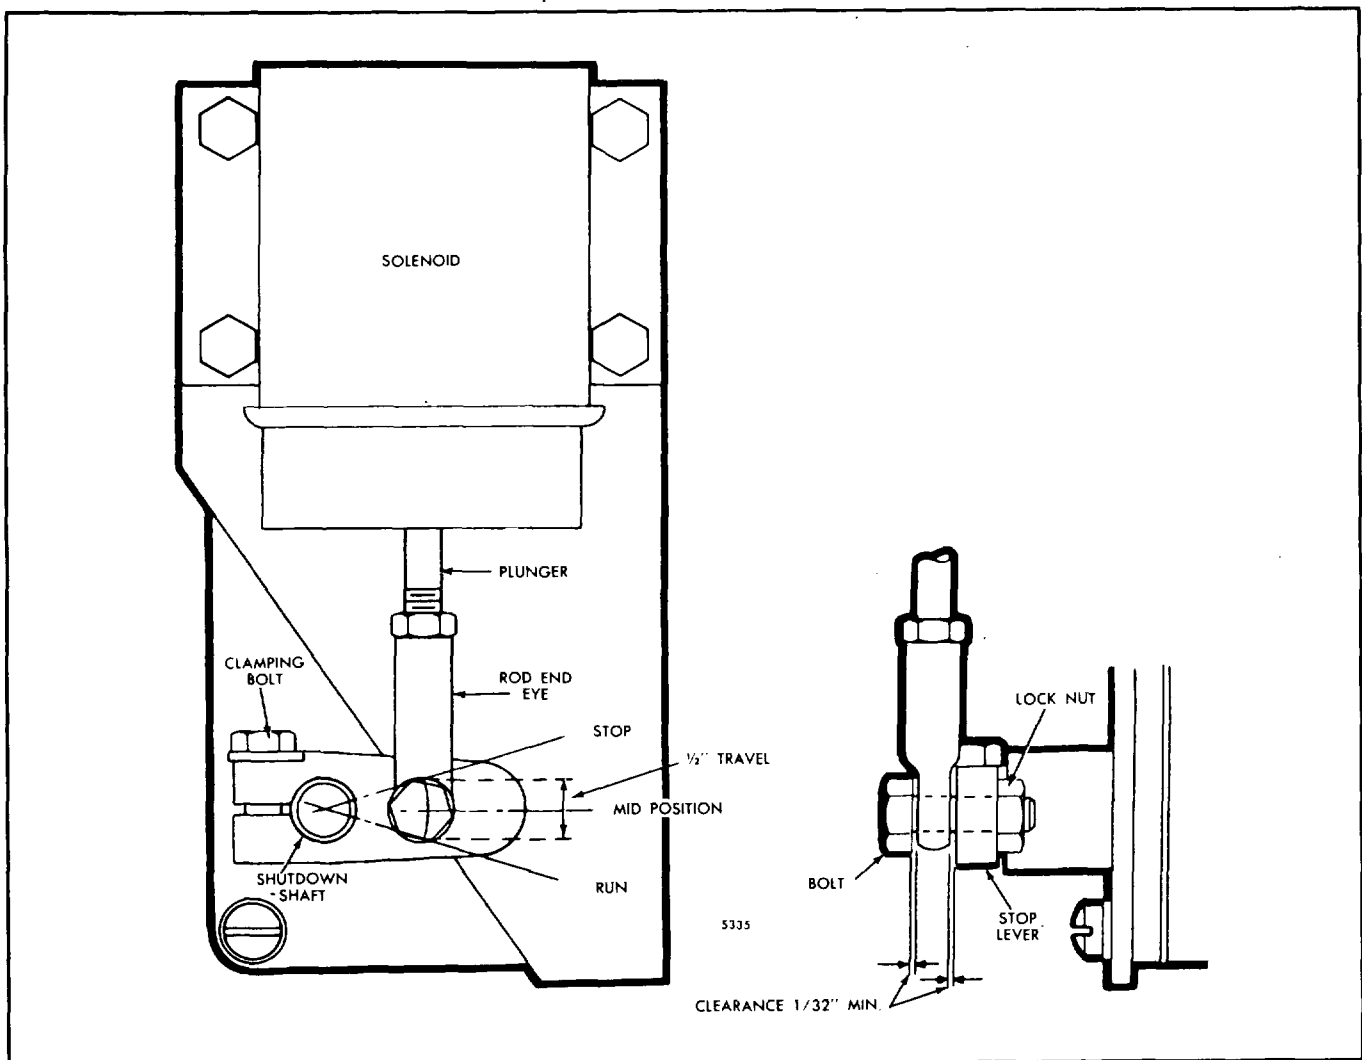

Fig. 5 - Typical Variable Speed Governor Lever Position
- 1 Remove the bolt connecting the rod end eye (variable speed governor) or the right angle clip (limiting speed governor) to the stop lever (Figs 5 and 6). Align and clamp the lever to the shutdown shaft in such a way that, at its mid-travel position, it is perpendicular to the solenoid plunger. This assures that the linkage will travel as straight as possible. The solenoid plunger has available 1/2" travel which is from the full-fuel to the complete no-